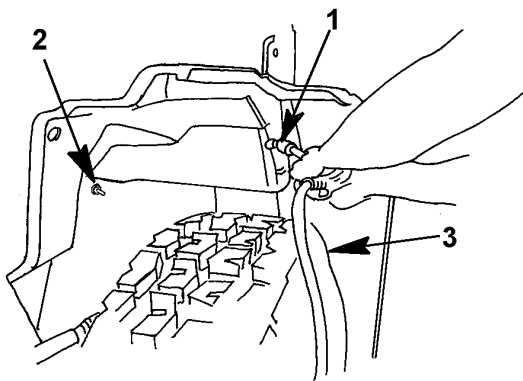

Figure 1 Removing Fender Extension- Drivers Side Shown
2. Remove the mounting bolts and nut from the fender extension (Figure 1).
12. Re-install the modified fender extensions. Install a washer from Kit 8000827R91 on the mounting stud, Item 2 in Figure 1, between the fender extension and the nut. Tighten the fasteners to 34 to 38 Lbf-ft (46 to 52 Nm).